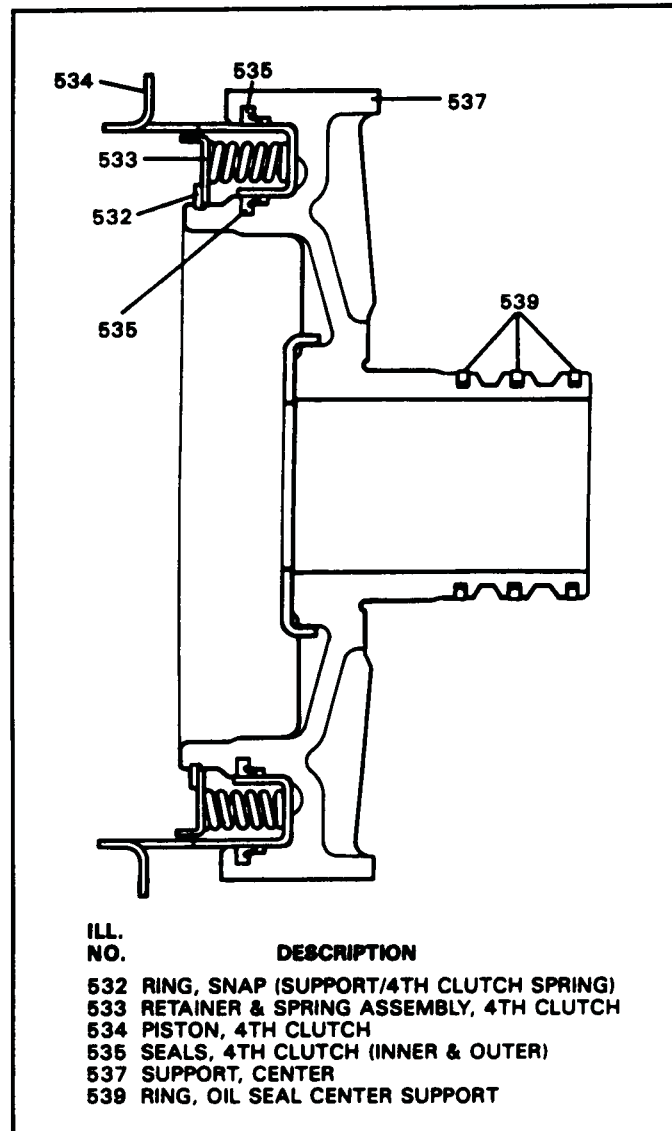

Figure 103
3. Install new inner and outer lip seals into center support, with the lips facing down, as shown in Figure 103.